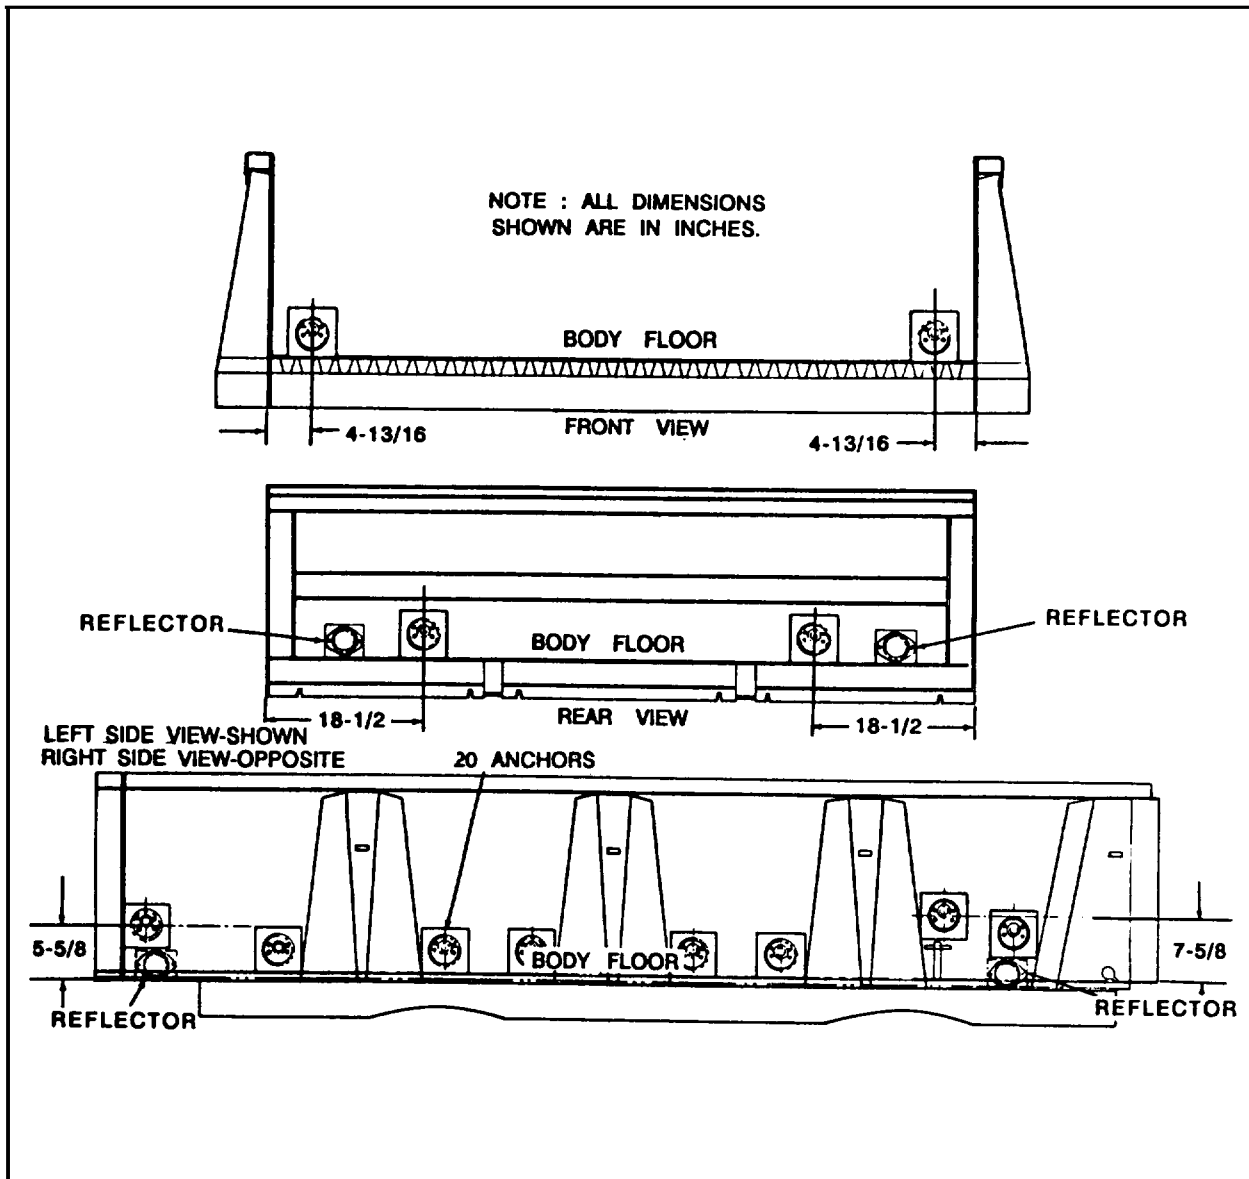

Figure 11. Location of anchors on M51, M51A1, M51A2, and M817 truck
(1) Using template provided in kit, scribe location of eight anchors on left side, eight on right side, two on front panel and two on tailgate, as shown in figure 11.